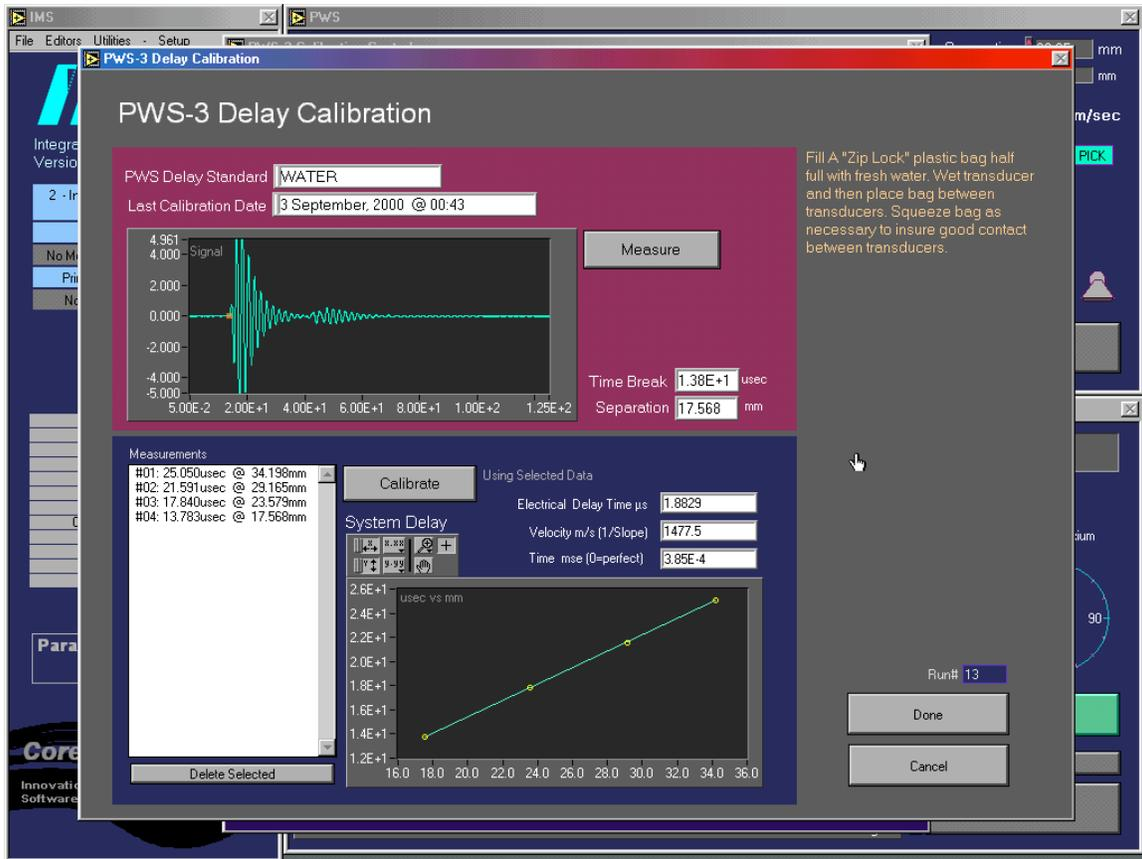

Figure 12. PWS3 Delay Calibration.
11. Next, click on DETERMINE SYSTEM DELAY to bring up the PWS Delay Calibration screen (Figure 12)